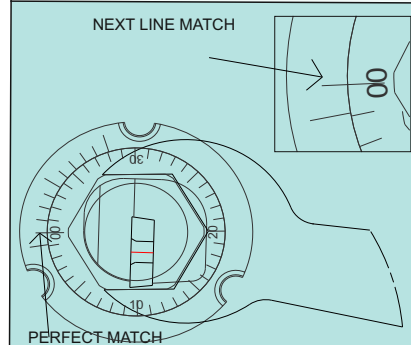

FIG.2
- Rotate the nut of MBU in clockwise direction still next line on the vernier scale exactly match with the reference line on main scale of micro bore as shown in FIG.2...